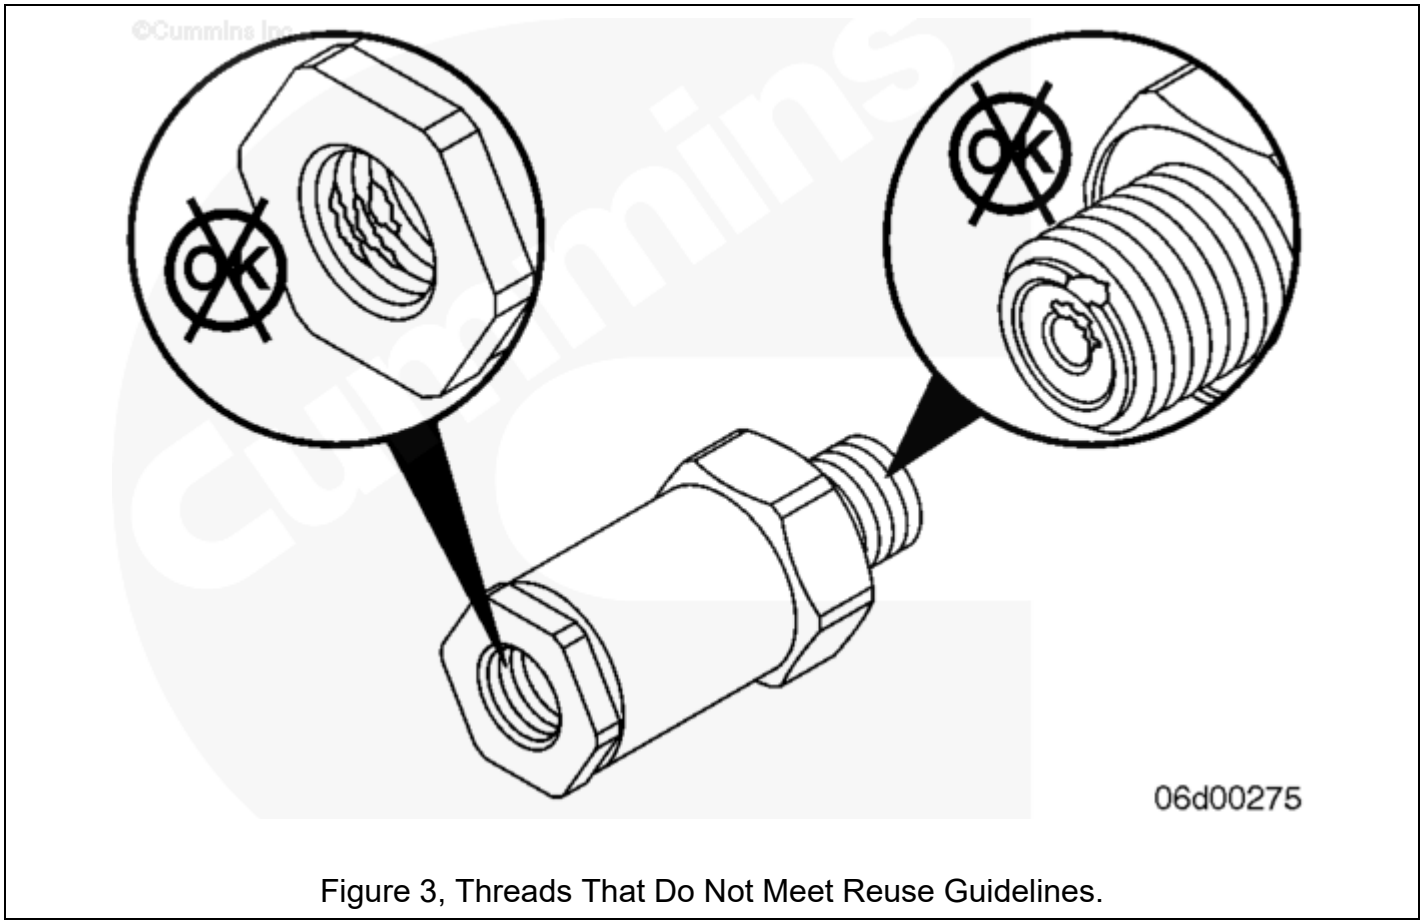

Figure 3, Threads That Do Not Meet Reuse Guidelines.
- Visually inspect the thread surfaces of the fuel rail, fuel pressure relief valve and the high-pressure fuel fitting for damage. Review Figures 3 and 4 below for guidance.